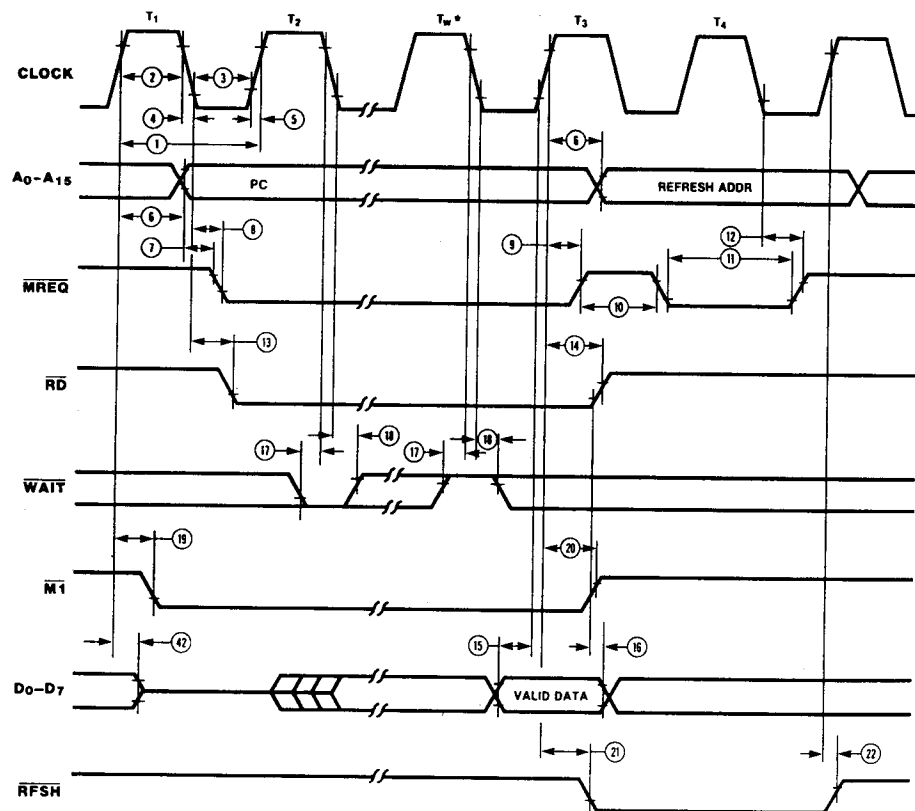

Figure 5. Instruction Opcode Fetch
**Instruction Opcode Fetch.** The CPU places the contents of the Program Counter (PC) on the address bus at the start of the cycle (Figure 5). Approximately one-half clock cycle later,  $\overline{\text{MREQ}}$  goes active. When active,  $\overline{\text{RD}}$  indicates that the memory data can be enabled onto the CPU data bus.